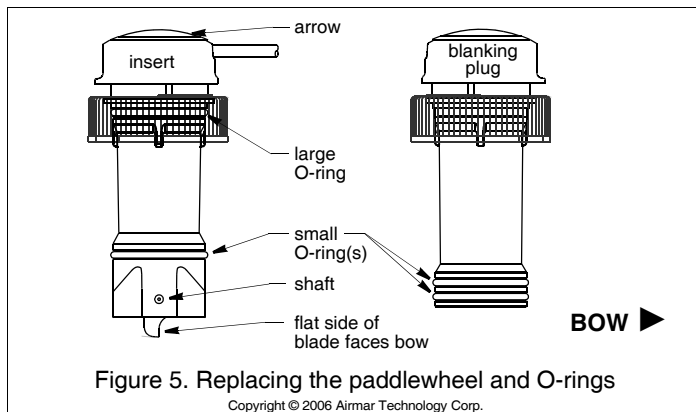

Figure 5. Replacing the paddlewheel and O-rings
- The O-rings must be intact and well lubricated to make a watertight seal. On the blanking plug, inspect the O-rings (replace if necessary) and lubricate them with the silicone lubricant supplied or petroleum jelly (Vaseline®) (see Figure 5).
- To remove the old paddlewheel shaft, grasp the end with small diagonal wire cutters and pull (see Figure 5).